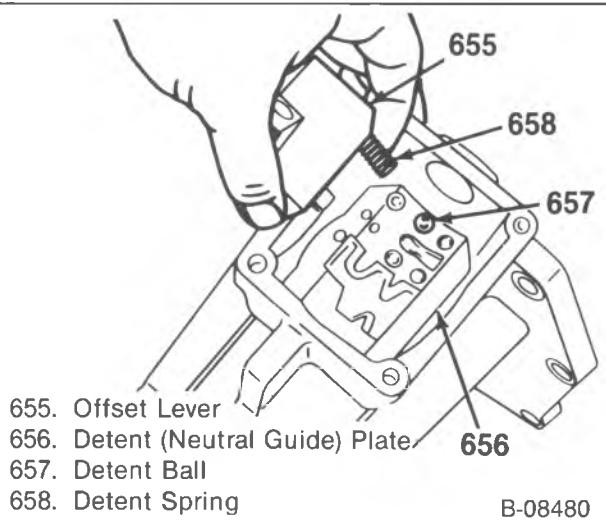
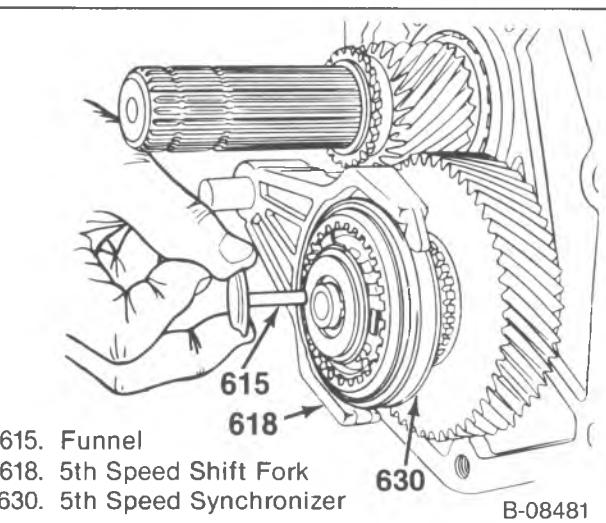

Figure 5—Detent Ball and the Spring
Figure 6—Plastic Funnel
- 4. Detent ball and the spring from the offset lever, (figure 5).
- 5. Countergear rear thrust bearing (612).
- Plastic funnel (5 speed only) (figure 6).
- 6. Shift cover (601).